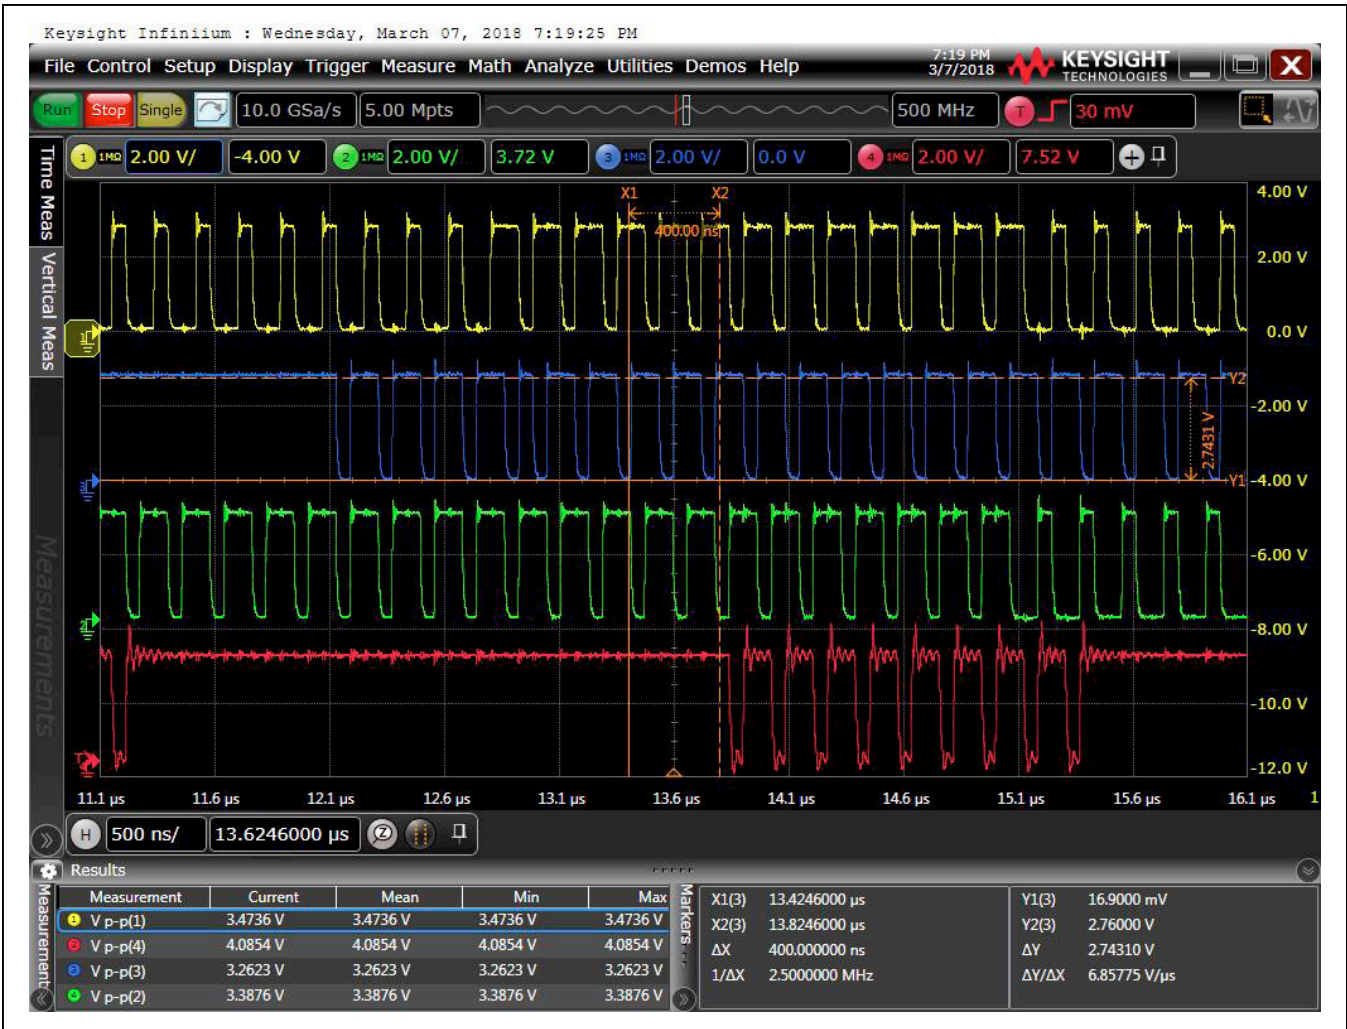

Figure 2. ADC Outputs on Oscilloscope
- Set the Driver Configuration to CMOS logic to observe the ADC digital output at J26 header pins. ADC Output Bit and Data format can be selected accordingly from GUI. See Figure 2.